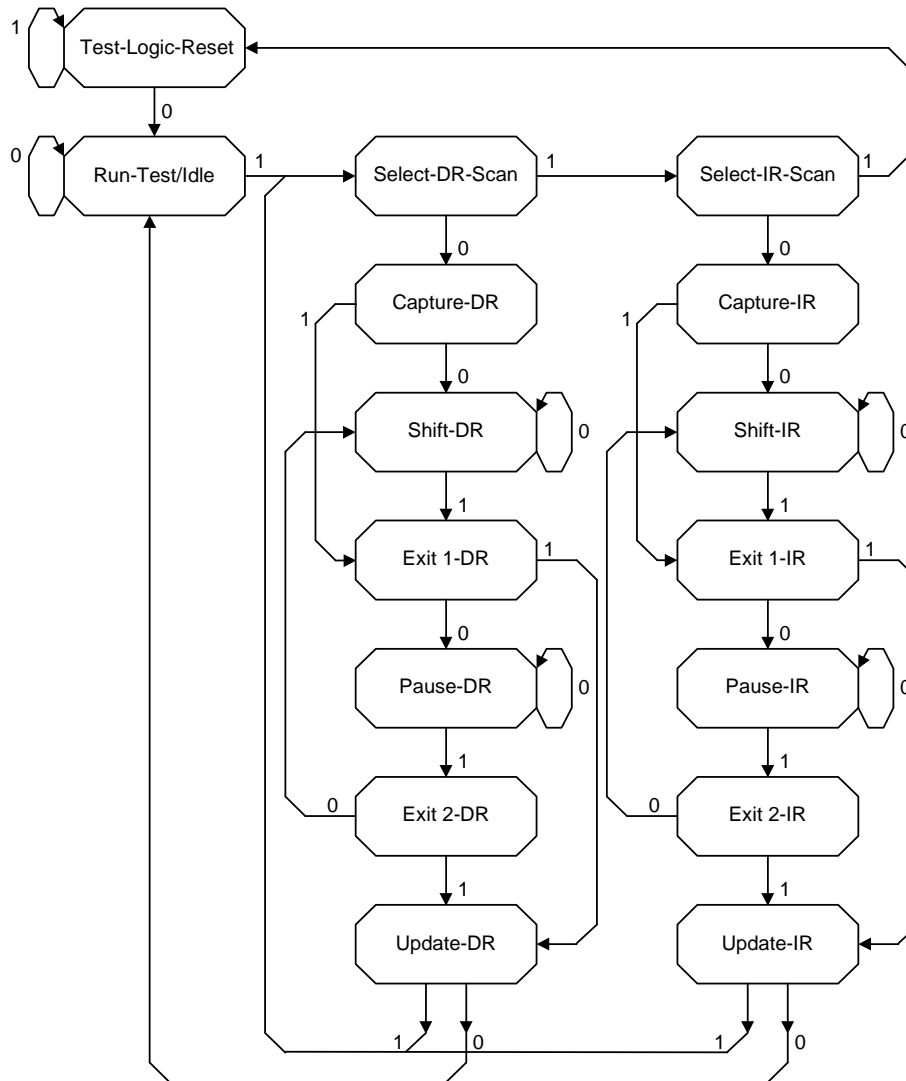

Fig. 21.7 State Transition Diagram of the TAP Controller
Fig. 21.7 shows the state transitions of the TAP controller. The state of the TAP controller changes depending on which value TMS will select on the rising edge of TCK, 0 or 1. In this figure, the arrow shows a state transition and the value that TMS selects to execute each state transition is shown alongside of the arrow.
The TAP controller operates in each state described below. In Fig. 21.7, a column to the left is the data column and a column to the right is the instruction column. The data column represents the data register (DR), and the instruction column represents the instruction register (IR).